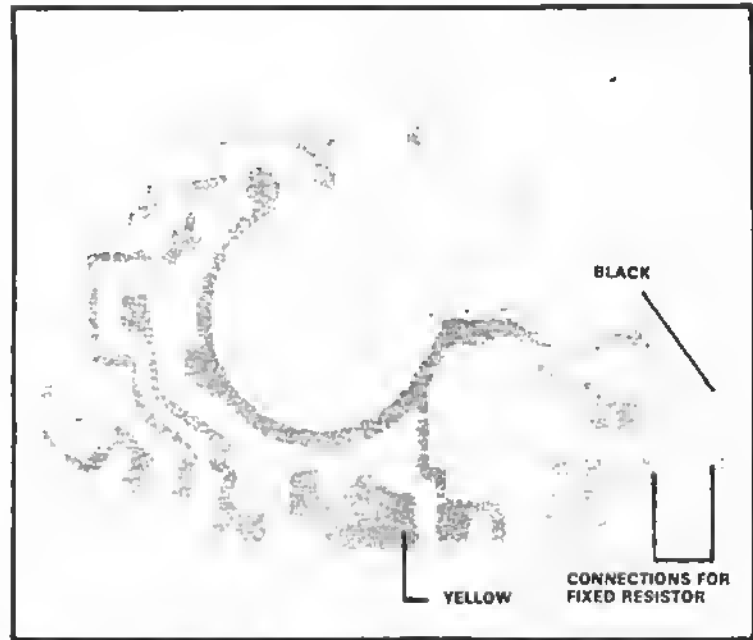

Figure 47 Exposure-meter circuit board
Fig. 47 shows the positions of the two wires coming from the diaphragm resistor. Since you can reach the wires from the top of the camera, you can test the diaphragm resistor without removing the front standard.
**NOTE:** In Fig. 47, we've just indicated the positions of the diaphragm-resistor wires. However, the circuit-board land for the yellow wire actually has three yellow wires — one for the speed resistor, one for the galvanometer, and one for the diaphragm resistor.
Unsolder the black wire, Fig. 47, from the exposure-meter circuit board. Then, clip one of your ohmmeter leads to the disconnected black wire; touch the other ohmmeter lead to the circuit-board land containing the three yellow wires. With the lens removed, you should read a resistance of around 2K.
Fig. 47 points out the lands for the fixed resistor. Try retouching the solder connections on these two lands. If retouching the solder connections doesn't correct the problem, check the fixed resistor. Just leave the black wire of the diaphragm resistor disconnected. And measure the resistance between the two fixed-resistor lands, Fig. 47.